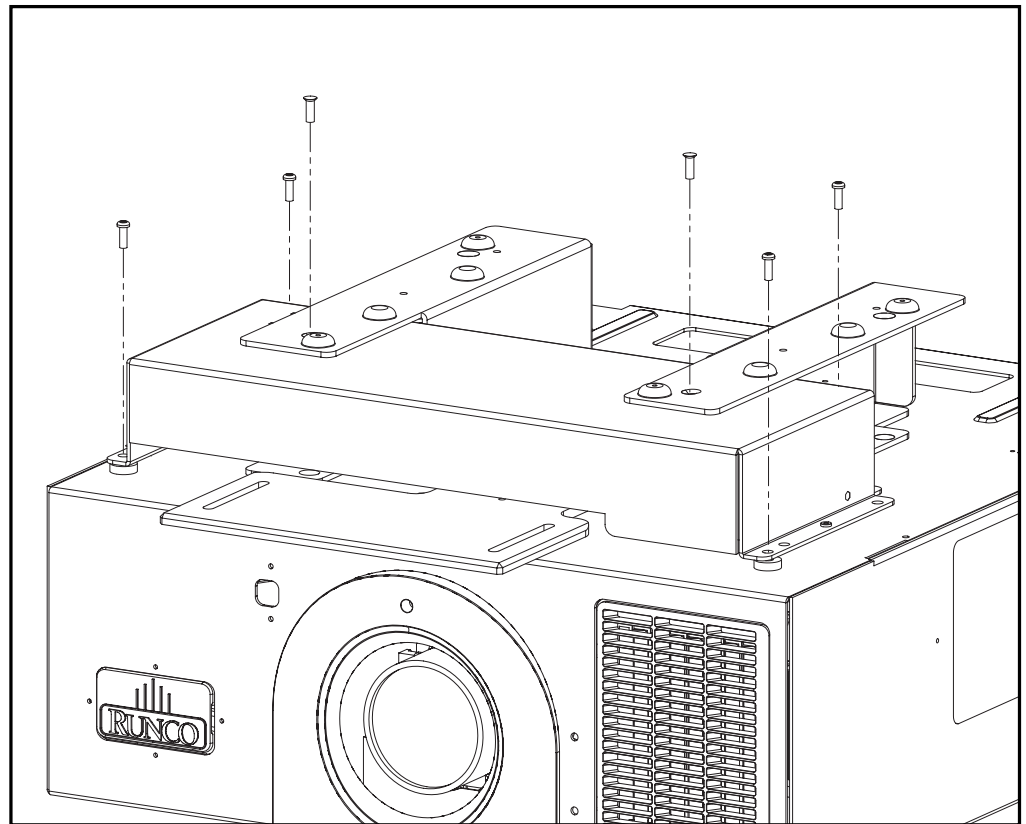

Figure 3-9. AutoScope Lens Motor Installation
1. Position the AutoScope Lens Motor (item #2) as shown in Figure 3-9.
3. Secure the motor to the projector with the four (4), supplied 10-32 Pan-Head Phillips screws (item #1) and nylon spacers or aluminum standoffs (item #7).
4. Secure the AutoScope Ceiling Mount Adapters/Projector Stands to the motor using the two (2), supplied 10-32 Flat-Head Phillips screws (item #3).